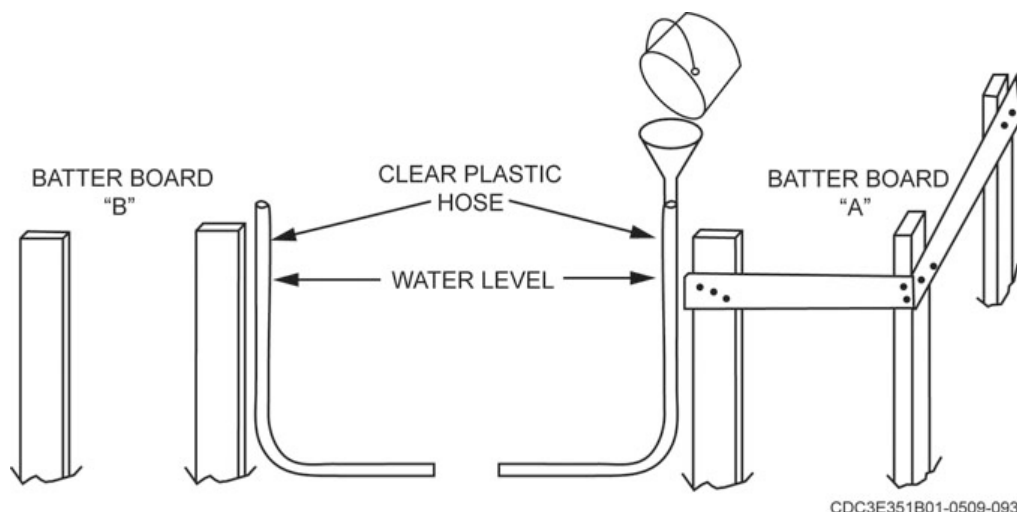

Figure 1-7. Water level.
Used right, the water level is an extremely accurate tool. A typical water level (fig. 1-7) uses a tube or hose, a funneling device, and water. In colder climates, you can use a water level kit with liquid antifreeze. Clear plastic tubing (half inch in diameter) with water or antifreeze also works with a great degree of accuracy. In either case, follow the four steps below:
2. Drive stakes at the next batterboard location (fig. 1-7).